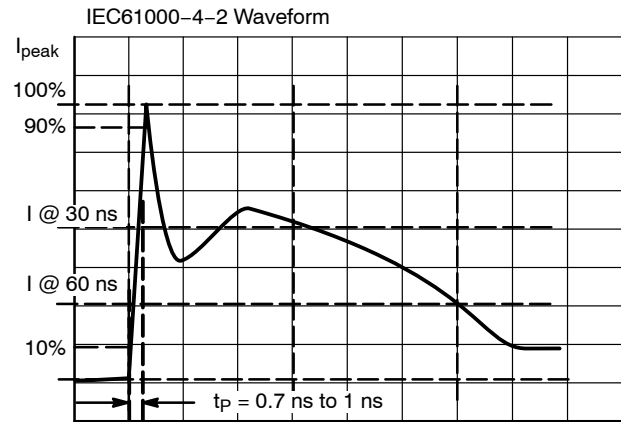

Figure 3. IEC61000-4-2 Spec
3. For test procedure see Figures 3 and 4 and Application Note AND8307/D.